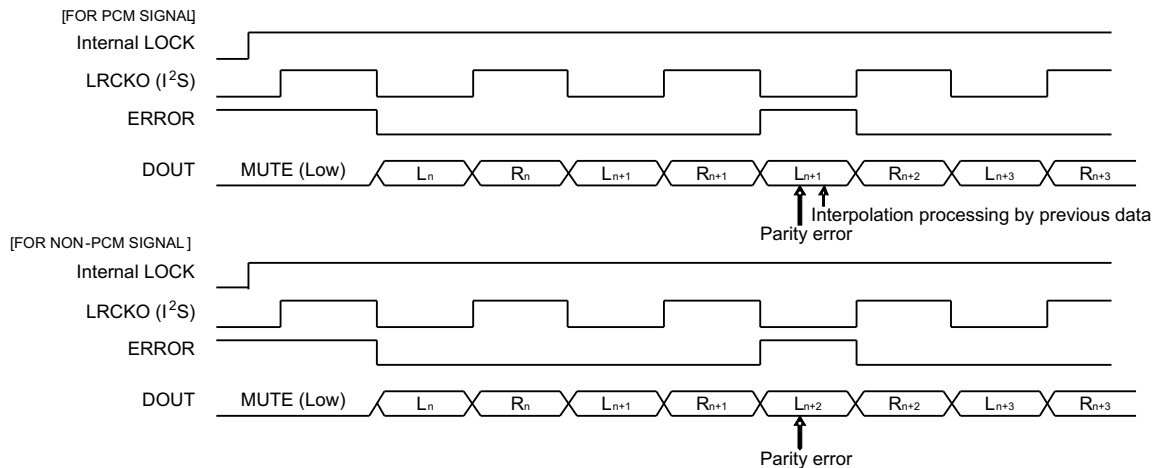

Figure 9. Processing for Parity Error Occurrence
- For PCM data, when an error is detected (for example, a parity error), then the data from the previous sample are repeated. This sequence is shown in Figure 9, where sample L_{n+1} is repeated because the incoming data (L_{n+2}) had an error.
Figure 9 shows the processing for parity error occurrence.